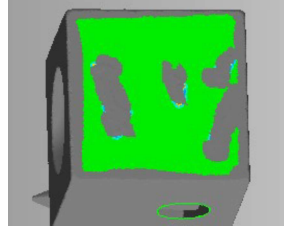

Figure 67
- The new display and information should reflect less deviation in the fitted feature as shown in **Figure 67**.
The new display and information should reflect less deviation in the fitted feature as shown in Figure 67.